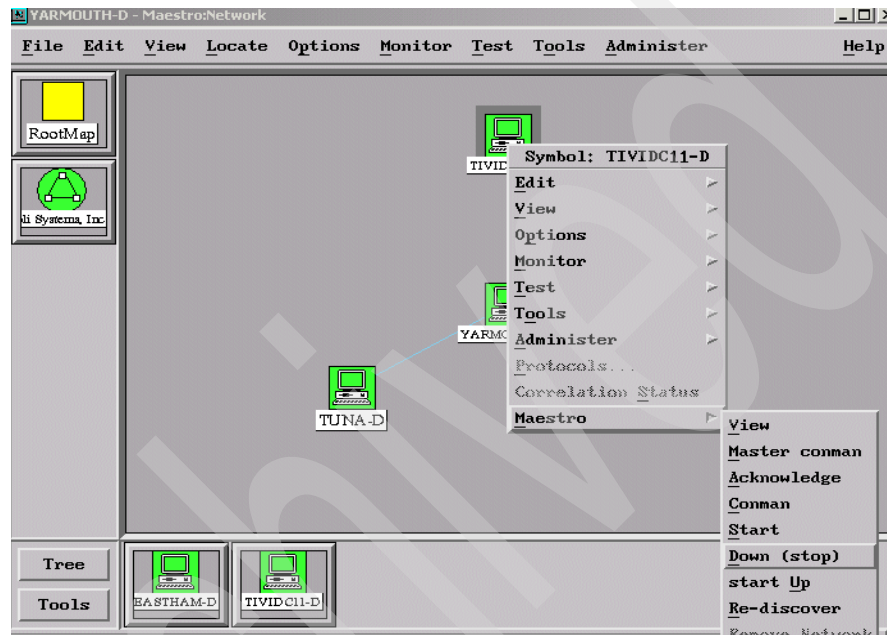

Figure 13-11 Stopping conman
2. Select **Maestro** and then select **Down (stop)**, as shown in Figure 13-11. This stops the **batchman** process on **tivdc11**.